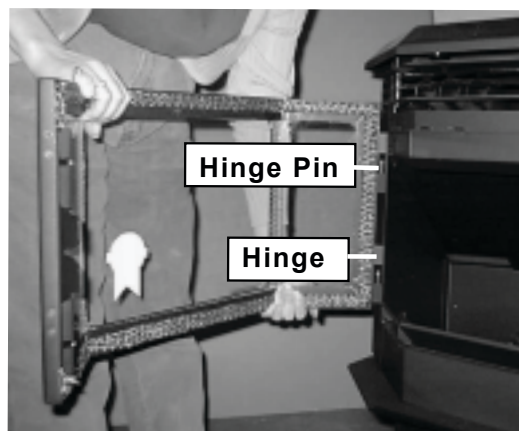

Figure 23.1
2. Line up hinges with hinge pins on appliance body, and slide door down until it sits securely on pins. **Figure 23.1.**